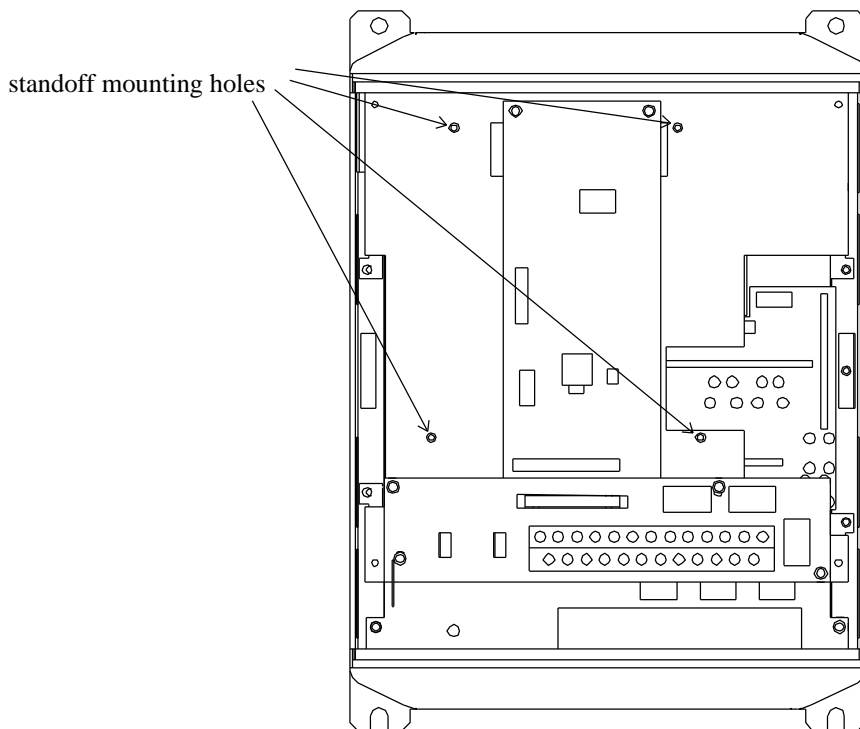

Figure 2: E3 with front cover and operation panel support bracket removed
5. Install the 4 nylon standoffs into the holes provided in the control board support bracket (refer to Figure 2).